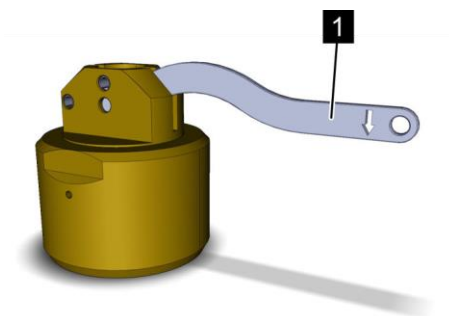

Fig. 170: Hand lever up
6. ➔ Return the hand lever (Fig. 170/1) to starting position.